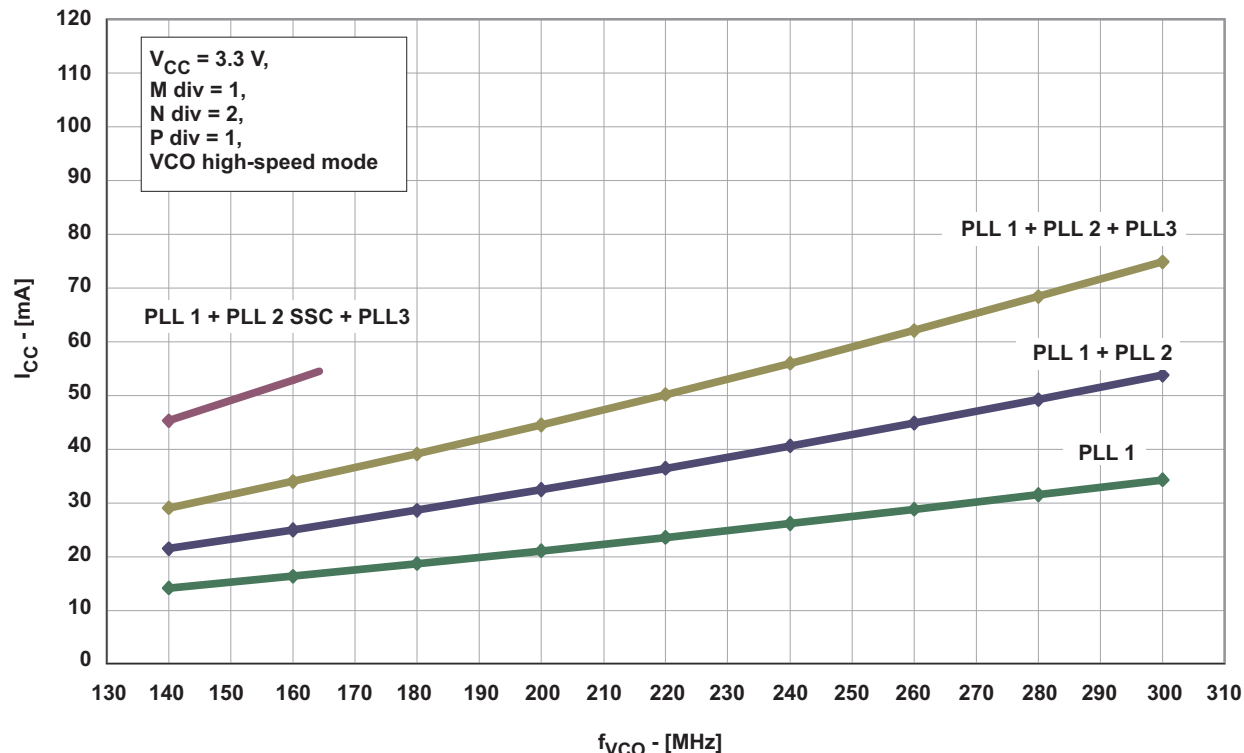
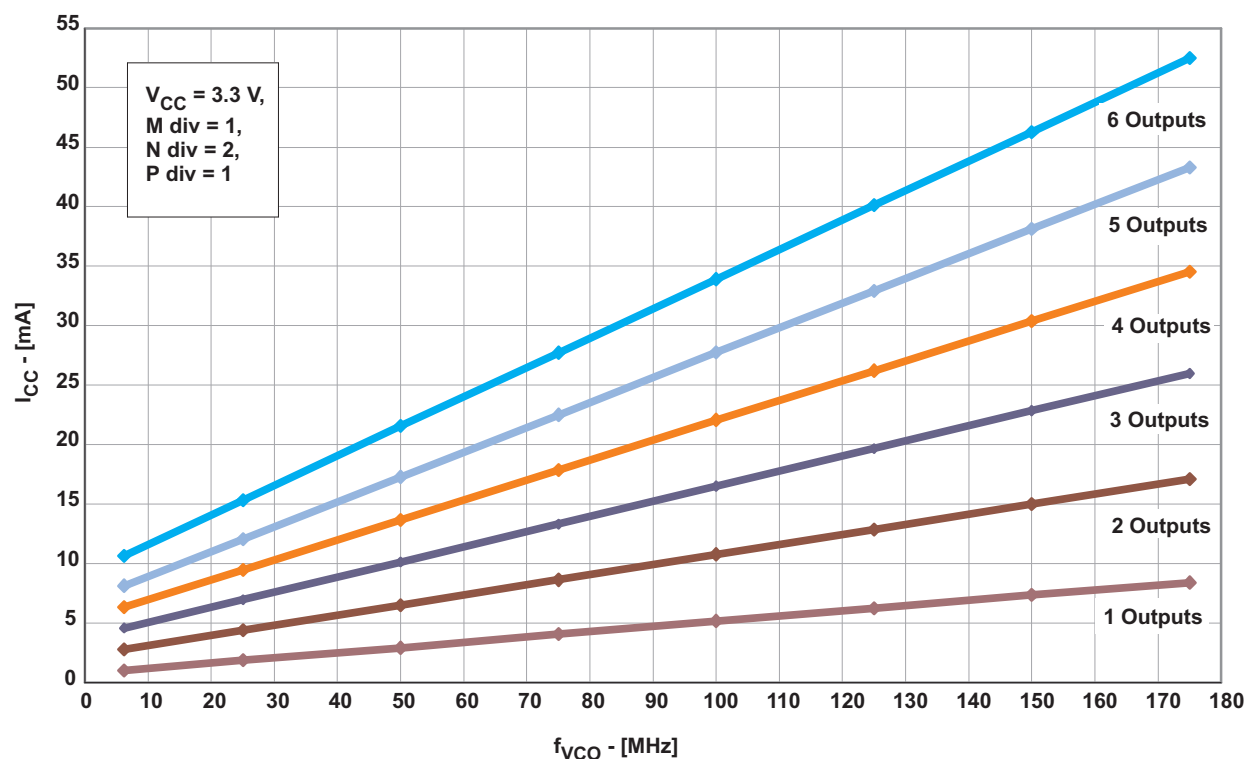

Figure 3. I_{CC} vs Number of PLLs and VCO Frequency (VCO at High-Speed Mode, Byte 6 Bit [7:5])
Figure 4. I_{CCOUT} vs Number of Outputs and VCO Frequency
- (1) All typical values are at respective nominal V_{CC} .
- (2) For calculating total supply current, add the current from Figure 2, Figure 3, and Figure 4. Using high-speed mode of the VCO reduces the current consumption significantly. See Figure 3.
- (3) Normal-speed mode or high-speed mode must be selected by the VCO frequency selection bit in Byte 6, Bit [7:5]. The min f_{VCO} can be lower but impacts jitter-performance.
- (4) The maximum output frequency may be exceeded, but specifications under the Recommended Operating Condition may change and are no longer assured. Do not exceed the maximum power dissipation of the 20-pin TSSOP package (600 mW at no air flow).